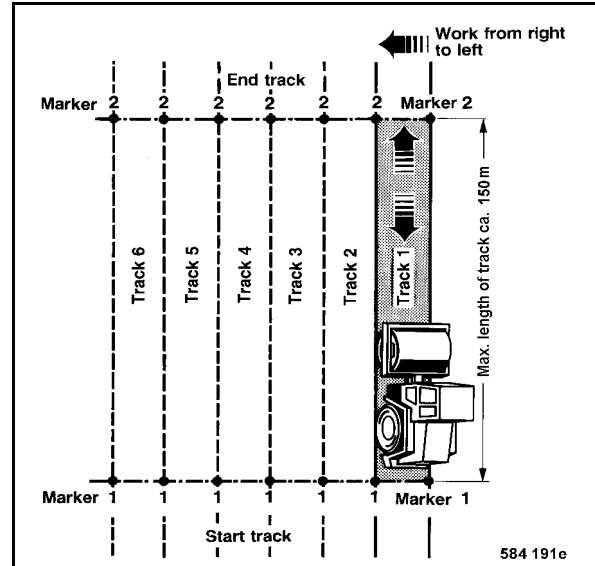

Fig. 92
- Mark the track to be compacted (Fig. 92).